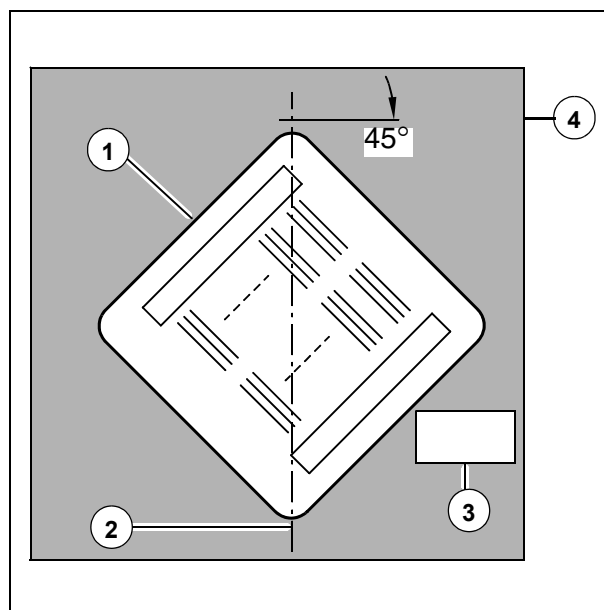

Fig. 3
- Attach the lead strip test, type 41/41a (1/Fig.3) on the I.I. rotated approx. 45° from the horizontal (2/Fig. 3) position.
- Place the 17 µm Cu strips (3/Fig. 3) next to the lead strip test.
- Collimate a radiation field as shown in (4/Fig.3).